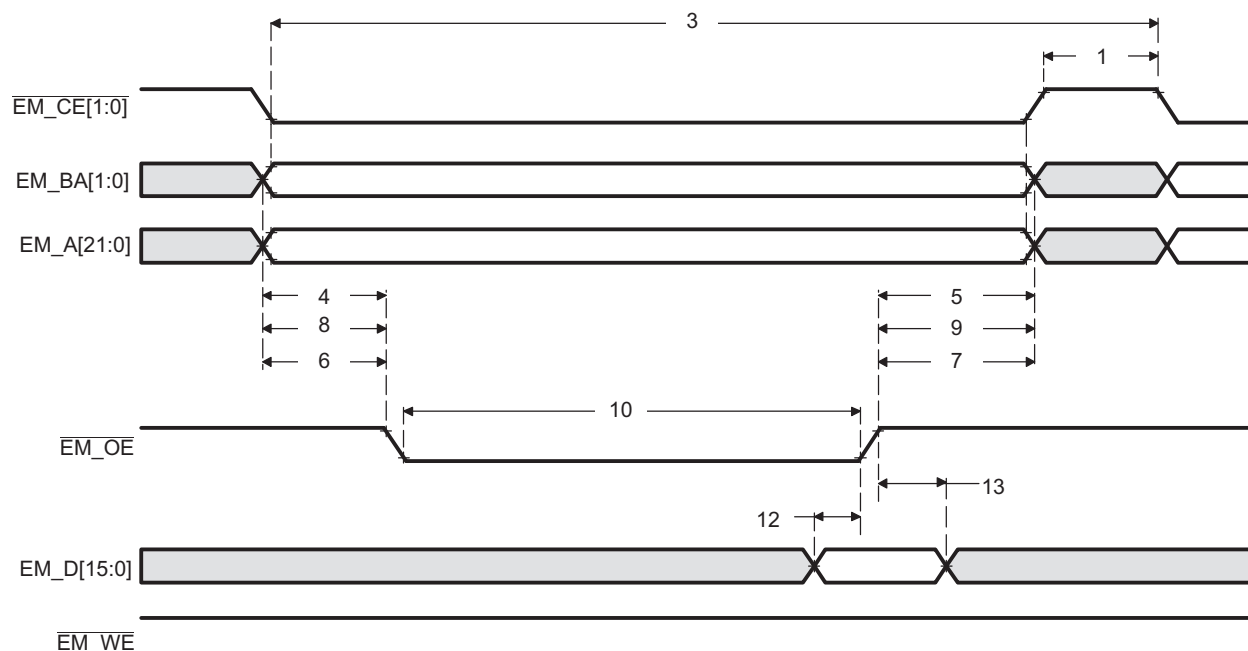
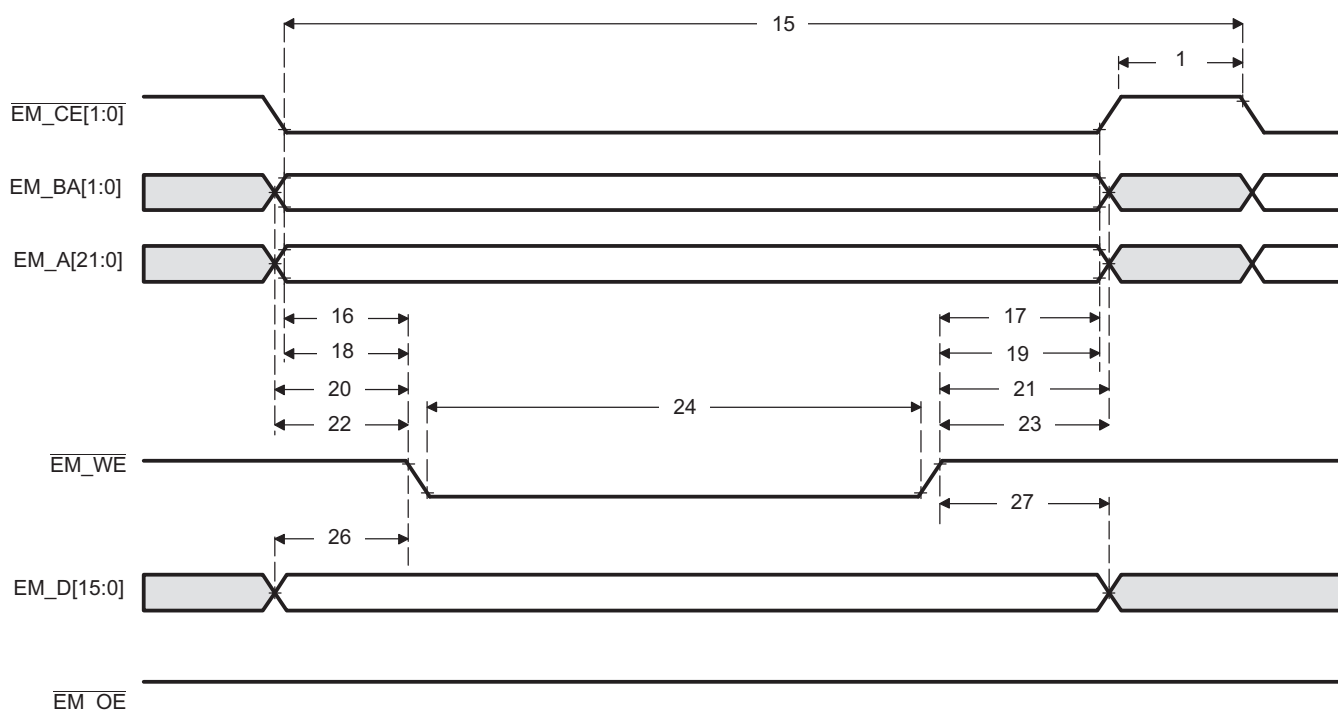

Figure 6-13. Asynchronous Memory Read Timing for EMIF
Figure 6-14. Asynchronous Memory Write Timing for EMIF
Table 6-21. Timing Requirements for Asynchronous Memory Cycles for AEMIF Module⁽¹⁾ (see Figure 6-13 and Figure 6-14)
Table 6-22. Switching Characteristics Over Recommended Operating Conditions for Asynchronous Memory Cycles for AEMIF Module⁽¹⁾ ⁽²⁾ ⁽³⁾ (see Figure 6-13 and Figure 6-14)
- (1) TA = Turn around, RS = Read setup, RST = Read strobe, RH = Read hold, WS = Write setup, WST = Write strobe, WH = Write hold, MEWC = Maximum external wait cycles. These parameters are programmed via the Asynchronous Bank and Asynchronous Wait Cycle Configuration Registers. These support the following range of values: TA[4-1], RS[16-1], RST[64-1], RH[8-1], WS[16-1], WST[64-1], WH[8-1], and MEW[1-256]. See the TMS320DM36x DMSoc Asynchronous External Memory Interface User's Guide (SPRUFI1) for more information.
(2) E=2*PLL1C SYSCLK4 period in ns. See Section 3.3 for more information.
(3) EWC = external wait cycles determined by EM_WAIT input signal. EWC supports the following range of values EWC[256-1]. Note that the maximum wait time before timeout is specified by bit field MEWC in the Asynchronous Wait Cycle Configuration Register. See the TMS320DM36x DMSoc Asynchronous External Memory Interface User's Guide (SPRUFI1) for more information.
Table 6-22. Switching Characteristics Over Recommended Operating Conditions for Asynchronous Memory Cycles for AEMIF Module^{(1) (2) (3)} (see Figure 6-13 and Figure 6-14) (continued)